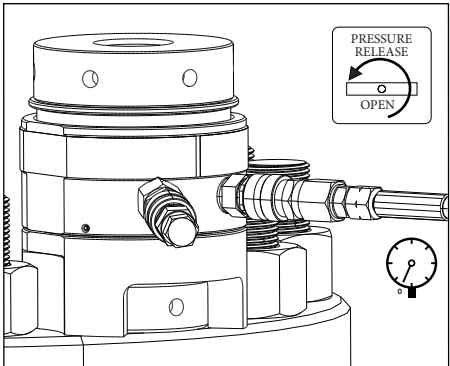

FIGURE 11, PRESSURE RELEASED AFTER TURNING DOWN NUT
9. Release the hydraulic pressure by SLOWLY opening the pump pressure release (return to tank) valve. Verify that the oil pressure gauge indicates zero (0) psi/bar. See Figure 11.
- Release the hydraulic pressure by SLOWLY opening the pump pressure release (return to tank) valve. Verify that the oil pressure gauge indicates zero (0) psi/bar. See Figure 11.
21. Release the hydraulic pressure by SLOWLY opening the pump pressure release (return to tank) valve. Verify that the oil pressure gauge indicates zero (0) psi/bar. See Figure 11.